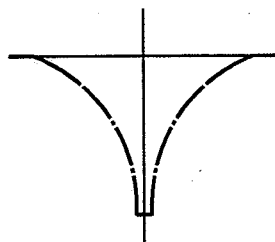

Fig. 2
- (1) When the signal from the signal generator is weak, make adjustment until the waveform becomes maximum and symmetrical as shown in Fig. 2. Increase the output of the sweep generator and adjust the waveform until the width of part C becomes as flat as possible.